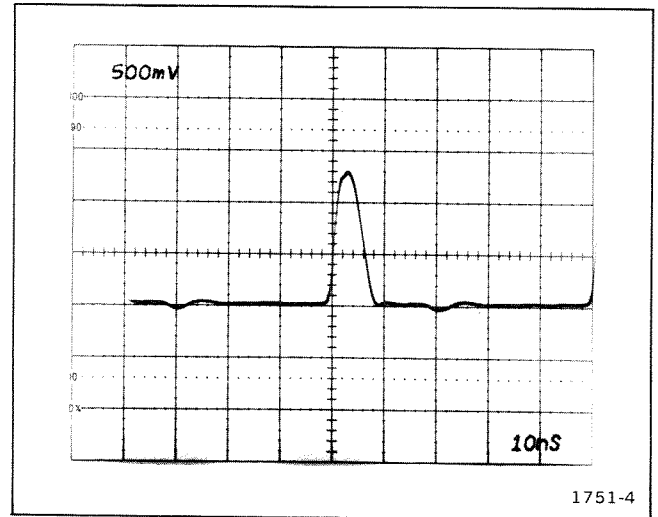

Figure 4-11. Fast delay time accuracy.
e. Adjust Amplifier plug-in unit and 7B92A POSITION to locate leading edge of time-mark at the intersection of graticule horizontal and vertical center lines. (See Figure 4-11.)